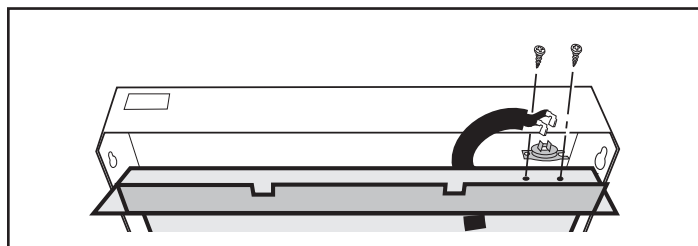
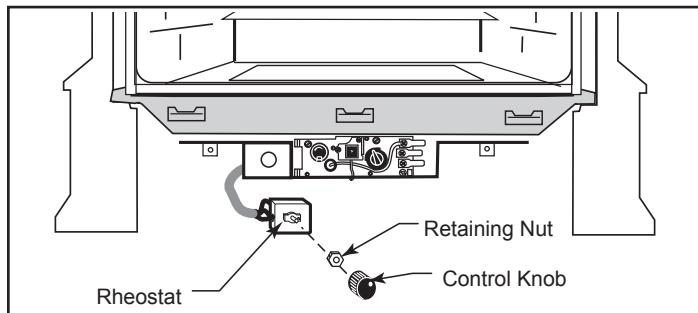

Figure 4 - Attach snapstat to inner shroud.
Figure 5 - Attach rheostat to bracket.
3. Feed the snapstat wire lead up between the inner and outer rear shroud panels and secure the snapstat to the upper right side of the inner shroud. (Figure 4)
5. Replace shroud and tighten the two (2) hex head nuts on lower inside of shroud.
7. Install the rheostat onto the bracket to the left of the valve. (Figure 5)